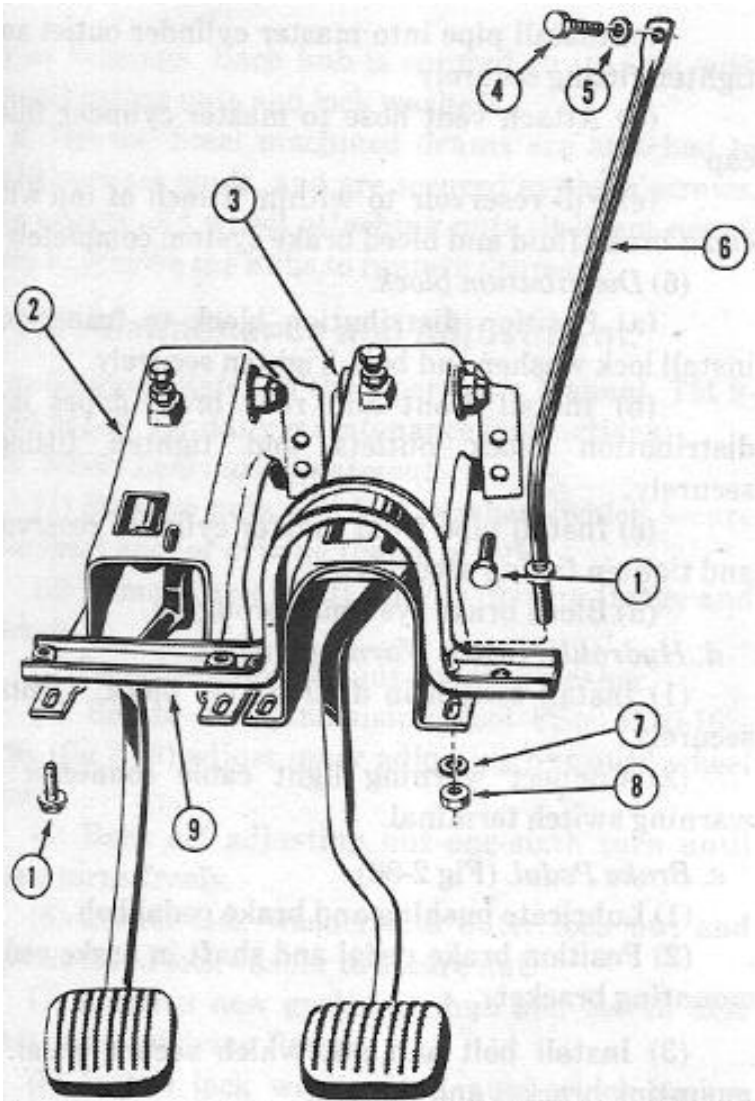

Figure 2-87. Brake and clutch pedal support bracket
f Brake Pedal Support Bracket. (Fig 2-87)
- (1) Lubricate bushing and brake pedal bolt.
- (2) Position brake pedal and shaft in brake pedal mounting bracket.
- (3) Install bolt and nut which secure pedal to mounting bracket and tighten.
- (4) Connect push rod to brake pedal and install flat washer on pin.
- (5) Connect brake pedal return spring.
- f. Brake Pedal Support Bracket. (Fig 2-87)
- (1) Position brake pedal support bracket to firewall and install bolts and nuts. Tighten securely.
- (2) Install support bracket-to-instrument panel bolts and tighten.
- (3) Install brace rod into support bracket hole and secure with nut and lock washer.
- (4) Connect brake pedal return spring.